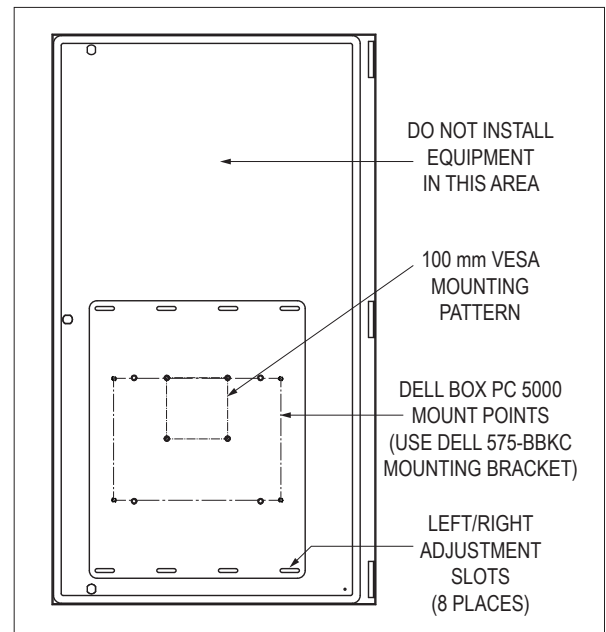

FIGURE 5 – INSIDE VIEW OF ENCLOSURE DOOR
- a. When using the standard PC mounting bracket: Refer to Figure 5. Remove the bracket and drill holes as required to accommodate the PC.